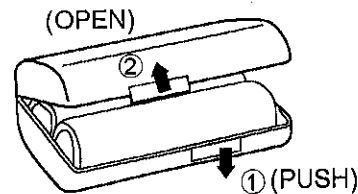

Fig. 6
- Be sure to carry Rechargeable Battery Ass'y in this Battery Carrying Case. If not, it may either heat or ignite by shorting with a metal. (as shown in Fig. 6)